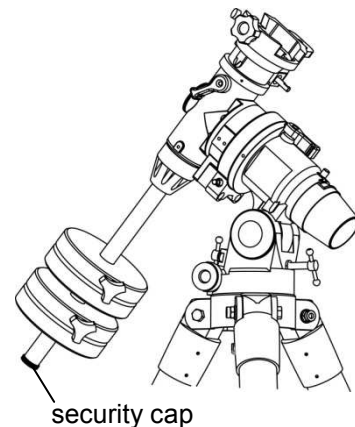

Fig 6
- 1.4.5 Screw the cap back on the end of the counterweight bar (fig 6).